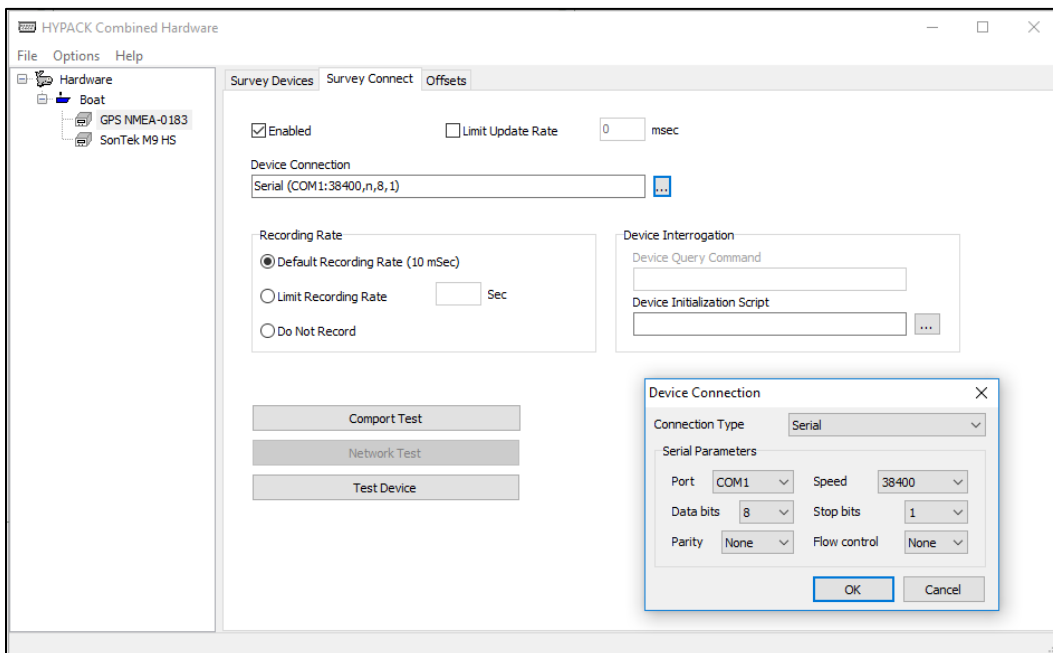

Figure 6.—Survey Connect tab for the selected GPS device within the HYPACK Combined Hardware window.
2. While still within the HYPACK Combined Hardware window, select the “**Survey Connect**” tab (to the immediate right of the Survey Devices tab). Click on the small box containing ellipsis, just right of the long Device Connection box. In the Device Connection popup window, the user can connect to the GPS device with the following settings (figure 6).
Note: The COM port may vary depending on the user’s laptop (figure 6).
Back under the Survey Connect tab, click on “Test Device” to verify receipt of NEMA string data from the GPS receiver (figure 6).